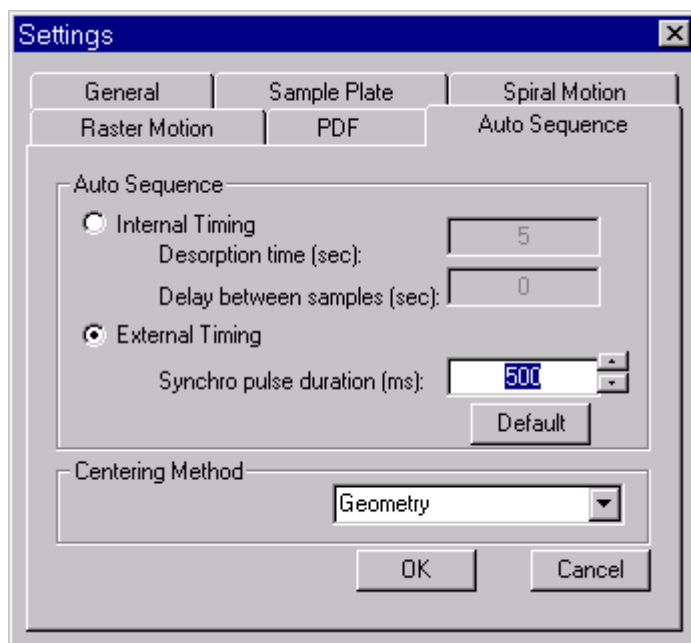
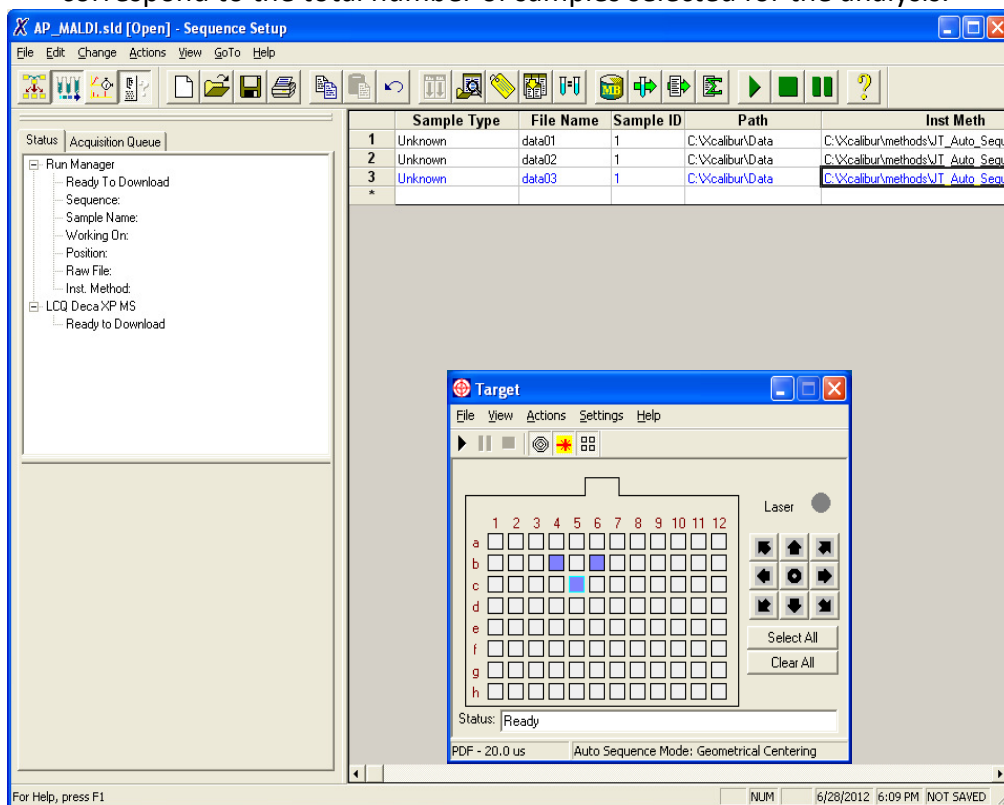

Figure 7.27 Auto Sequence Settings
Figure 7.30 Xcalibur/Instrument Setup/Sequence Setup and Target
The selection between the two automation modes is implemented in the "Auto Sequence" tab of "Settings" dialog box of Target Software (the dialog is activated through "Settings" menu item); this is shown in Fig. 7.27.
1. For external timing mode, connect the “External Control” connector (located on the control unit’s rear panel) to the exactive’s “Peripheral Controls” port (Fig. 7.27).
Figure 7.30 shows the sequence setup that is configured for the external timing and automated AP/MALDI 3 sample data recording process.
The lines in the table are run sequentially, and every line in the table corresponds to the sample selected in Target window as they are run one-by-one (Fig. 7.27). Please use the help/sequence setup menu in the Xcalibur/Sequence Setup Program for more details on the creation and editing of the Sequence Setup table. Make sure that all files in the instrumental method column of the table are saved with contact closure settings, which is described in the previous step above in Figure 7.30. The files where the acquired data will be saved are shown in the file name column.
13. After the waiting for the contact closure message is displayed in the sequence setup window (see Fig. 7.30), press the PLAY button in the Target Software window to start AP/MALDI operation.